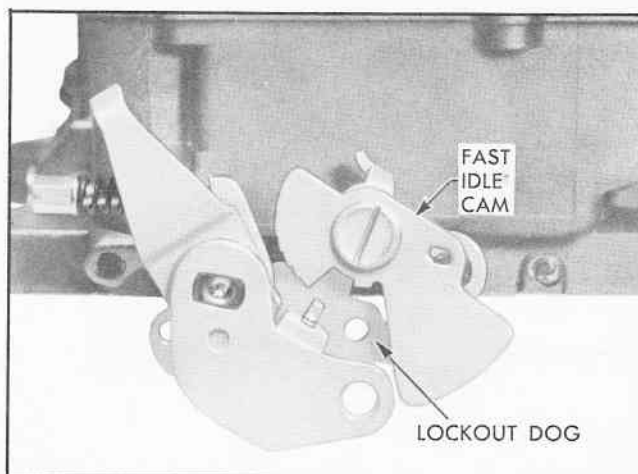

Fig. 20 Lockout Dog and Fast Idle Cam Installed
12. Install lockout dog, spacer, fast idle cam and screw (Fig. 20).